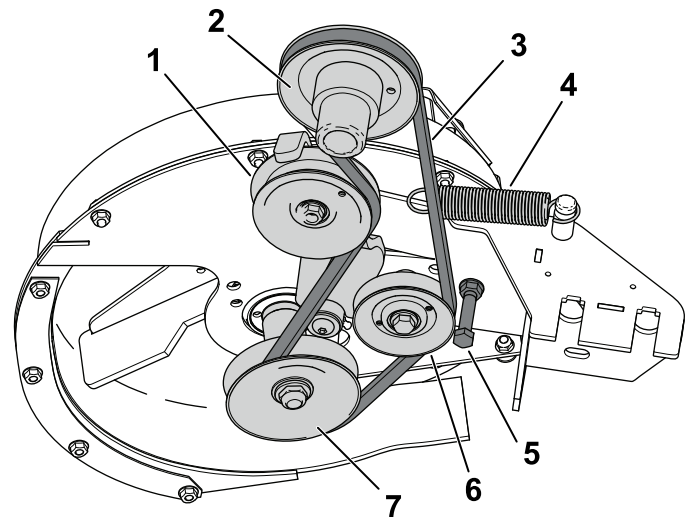

Figure 40
3. Loosen or remove belt guide (Figure 40).
4. Pull back on the spring-loaded idler pulley to relieve the belt tension (Figure 40).
6. Install the new belt around the blower pulley (Figure 40).
7. Tighten or install the belt guide (Figure 40).